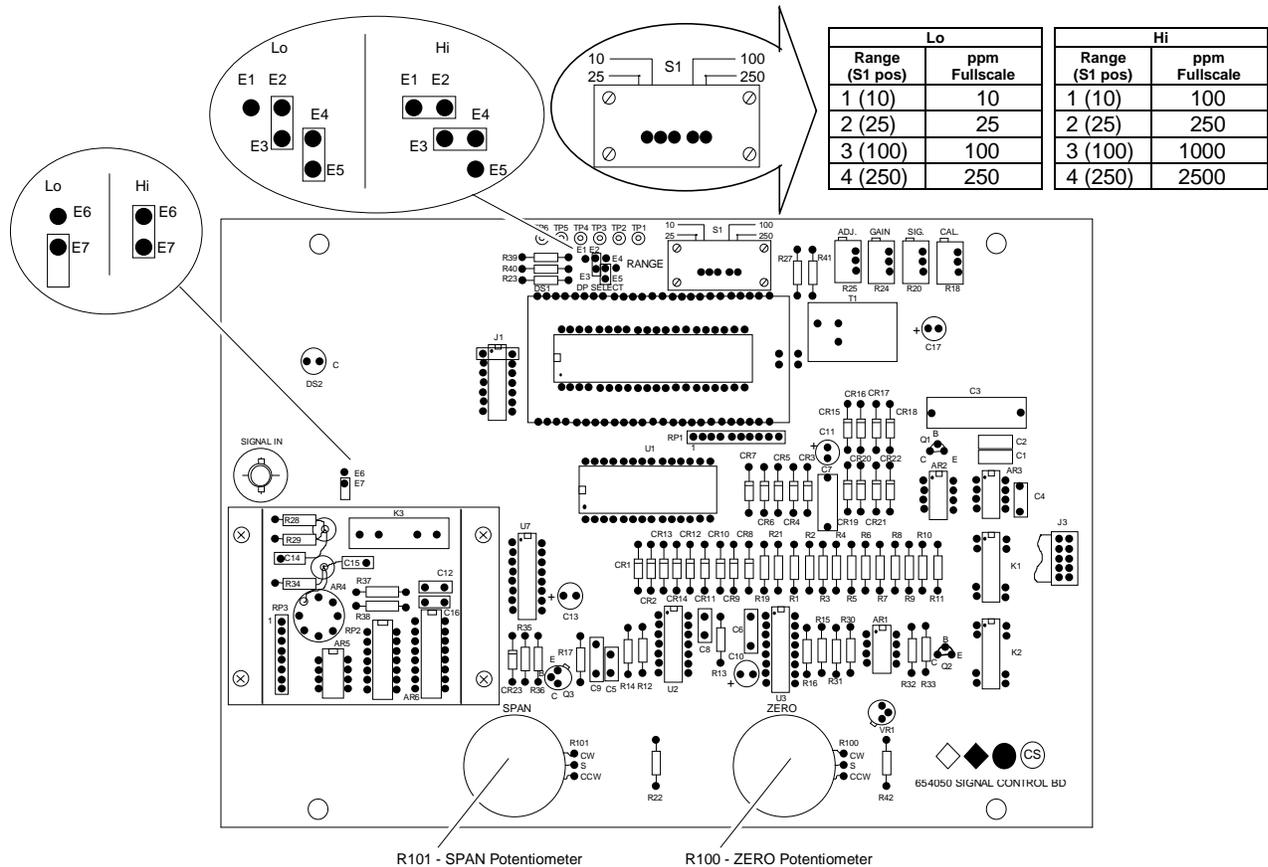

FIGURE 3-2. SIGNAL BOARD
The Model 951C has eight customer selectable ranges, four LO ranges (10 ppm, 25 ppm, 100 ppm and 250 ppm) and four HI ranges (100 ppm, 250 ppm 1000 ppm and 2500 ppm). The range is selected by positioning the RANGE Switch (S1) and the three jumpers on the Signal Board to the desired range controlling the recorder output. Refer to Figure 3-2.
2. On Signal Board, Figure 3-2, set PPM RANGE Switch (S1) to 250 ppm.
1. On the Signal Board, Figure 3-2, set PPM RANGE Switch for the same range that will be used during sample analysis. Set SPAN Control at about mid-range.
1. On the Signal Board, Figure 3-2, set PPM RANGE Switch to the position appropriate to the particular span gas.